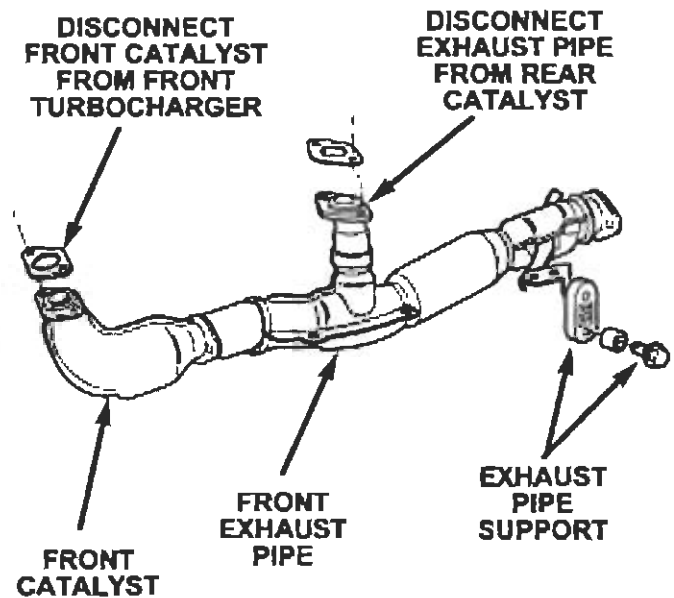

Figure 2
6. Remove the two nuts that secure the exhaust pipe to the rear turbocharger-mounted catalytic converter (Figure 2). Discard the nuts.
7. Remove the two nuts that secure the front catalytic converter to the front turbocharger outlet (Figure 2). Discard the nuts.
8. Disconnect the front exhaust pipe support (Figure 2). Disconnect the front exhaust pipe and temporarily support the front exhaust pipe with a wire or bungee cord.